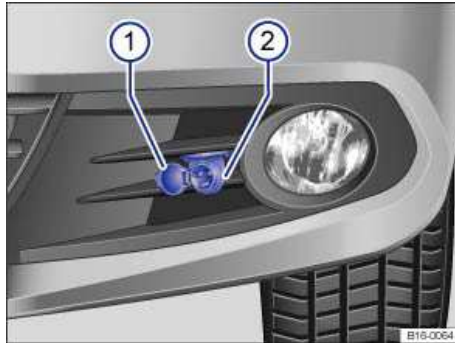

Fig. 114 In the front left bumper: Connection socket 2 for the engine preheating system.
- Open the cover ⇒ fig. 114 \(1\).
- Plug the connecting cable into the socket (2).
- Always disconnect the connecting cable and close the cover (1) before starting the engine.